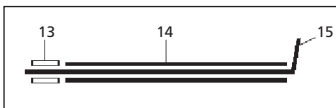

Figure 3. PTFE Seal Insertion Tool
- Each Repair Kit is supplied with a spare PTFE Seal and Insertion Tool assembled as illustrated in figure 3, and consists of a stainless steel tube (14), wire (15) and PTFE Seal (13).